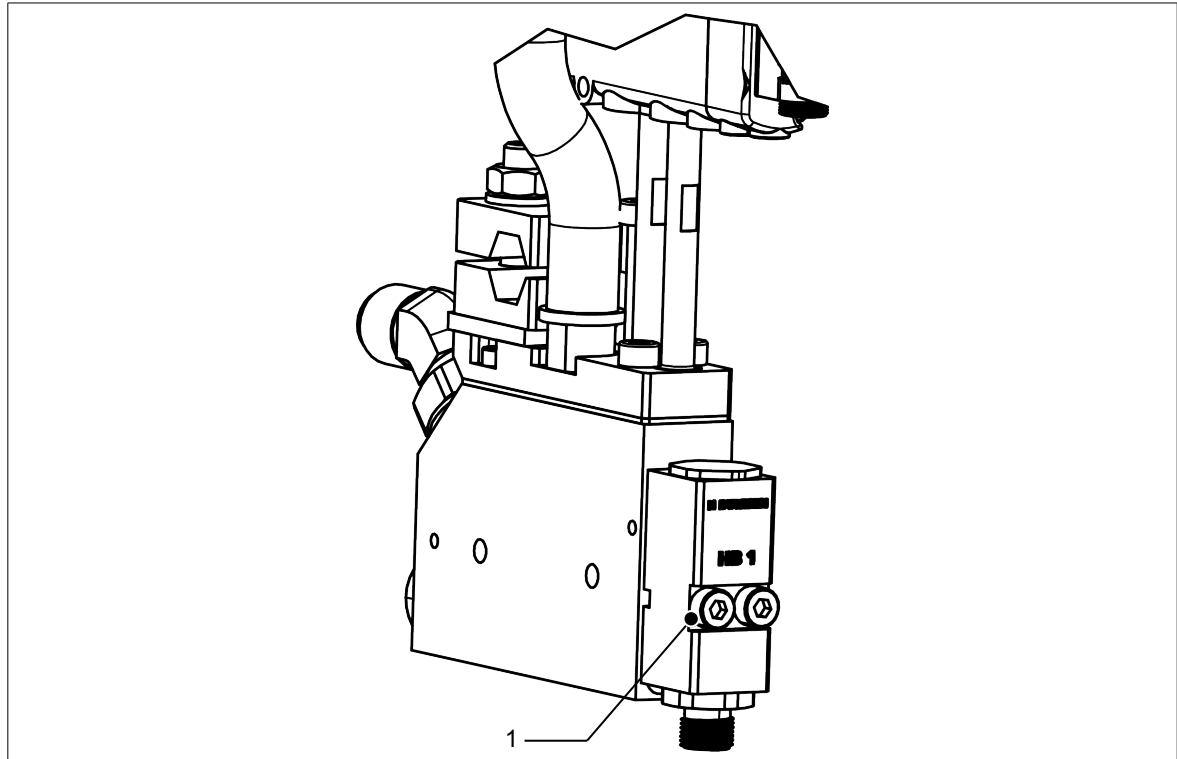

Figure 3: Replacement of module HB 1
3. Release the screws (1, M4) shown in *Figure 3* using an Allen key (3 mm).